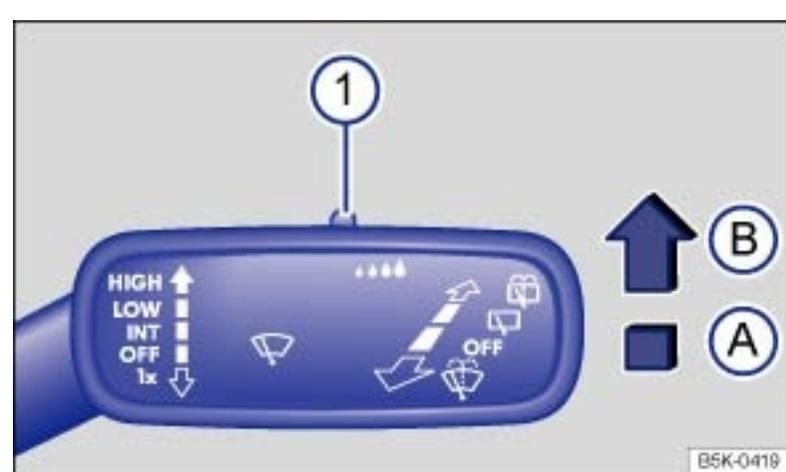

Fig. 91 Windshield wiper lever: Adjusting the rain sensor ① (if equipped).
When switched on, the rain sensor automatically shortens or lengthens the time between wiping intervals depending on how hard it is raining → . The rain sensor's sensitivity can be adjusted manually → Fig. 91 ①. Manual wiping (vehicles without rain sensors), see → Windshield wiper lever.
Push the lever into the desired position → Fig. 91: